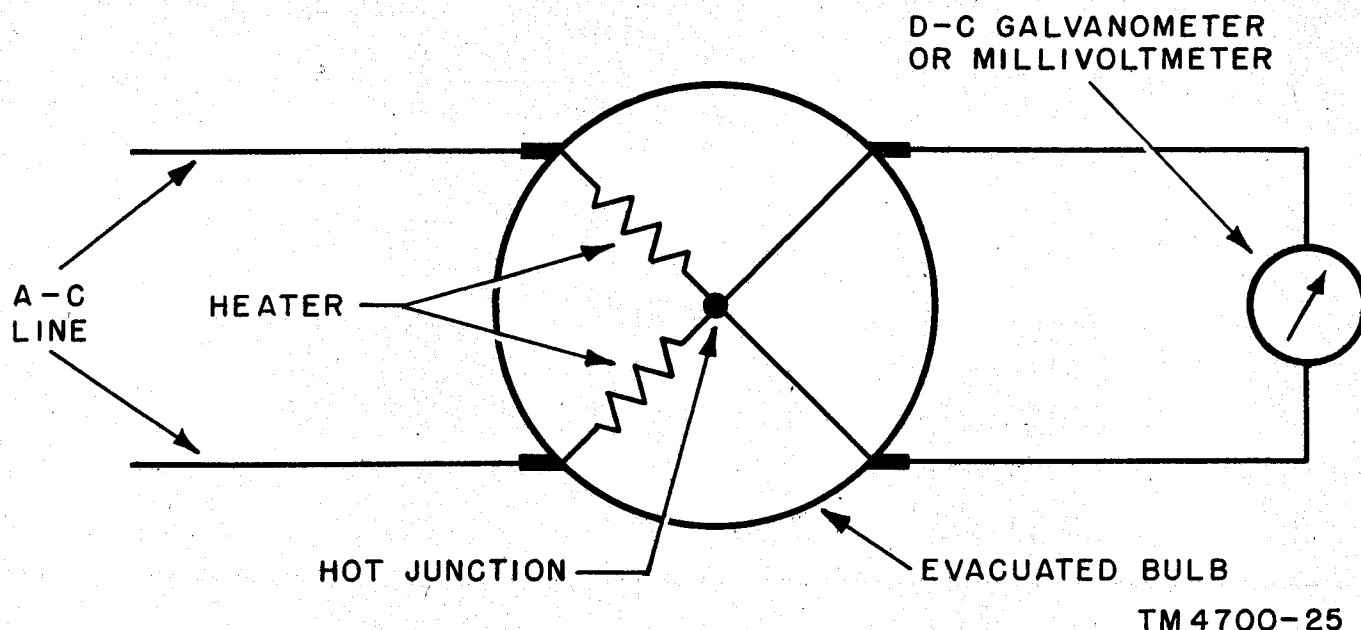

Figure 25. Vacuum thermocouple.
b. If the heater and the hot junction of the thermocouple are inclosed in an evacuated bulb, the sensitivity and reliability of the thermocouple are much improved because air currents about the hot junction and the heater are eliminated. A carbon filament may be used for the heater, and iron and alloyed metals for the junction. The vacuum thermocouple (fig. 25) of this type is very useful for the measurement of small alternating currents, usually not exceeding a few ma.